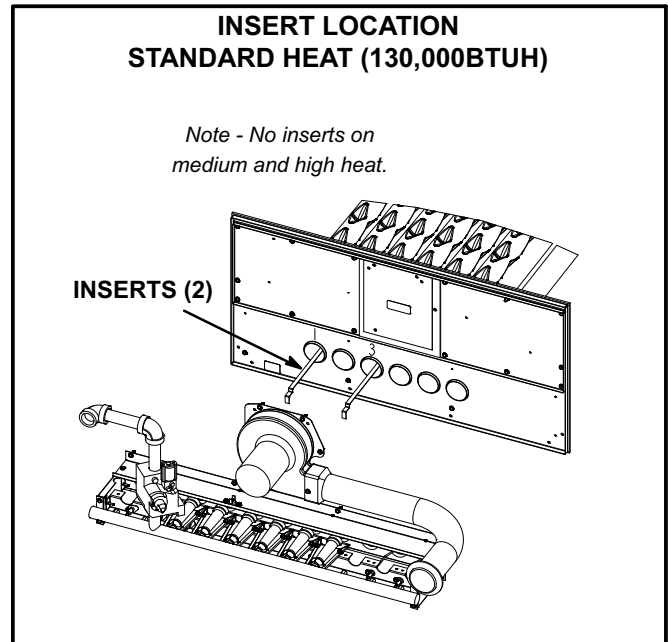

FIGURE 30
- 3- Remove inserts if installed. See figure 30.
Inserts are installed on standard (130,000Btuh) and high (240,000Btuh) heat exchangers. Medium heat exchangers do not require inserts. See figure 30.